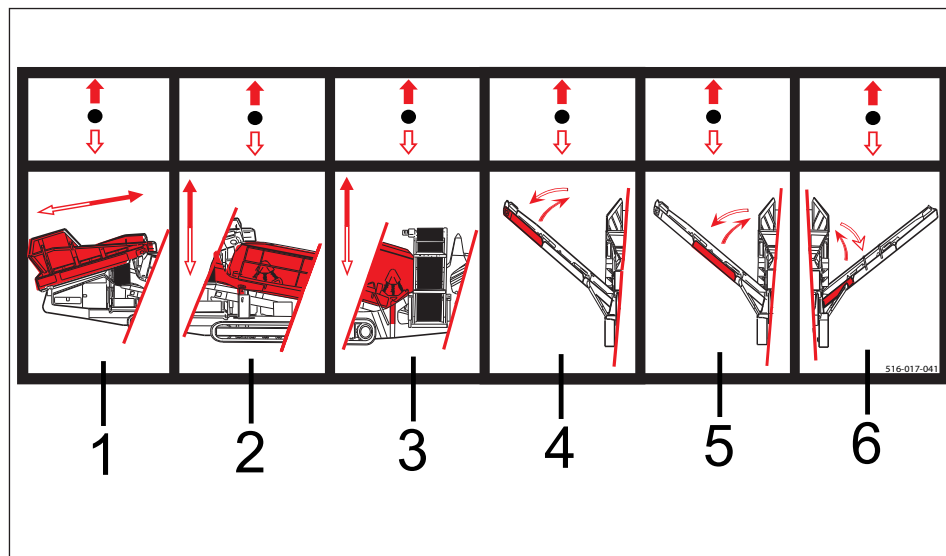

Figure 4.83 - Right Hand Side Control Bank Decal
8. Use lever 6 to unfold the bottom section (Figure 4.83).